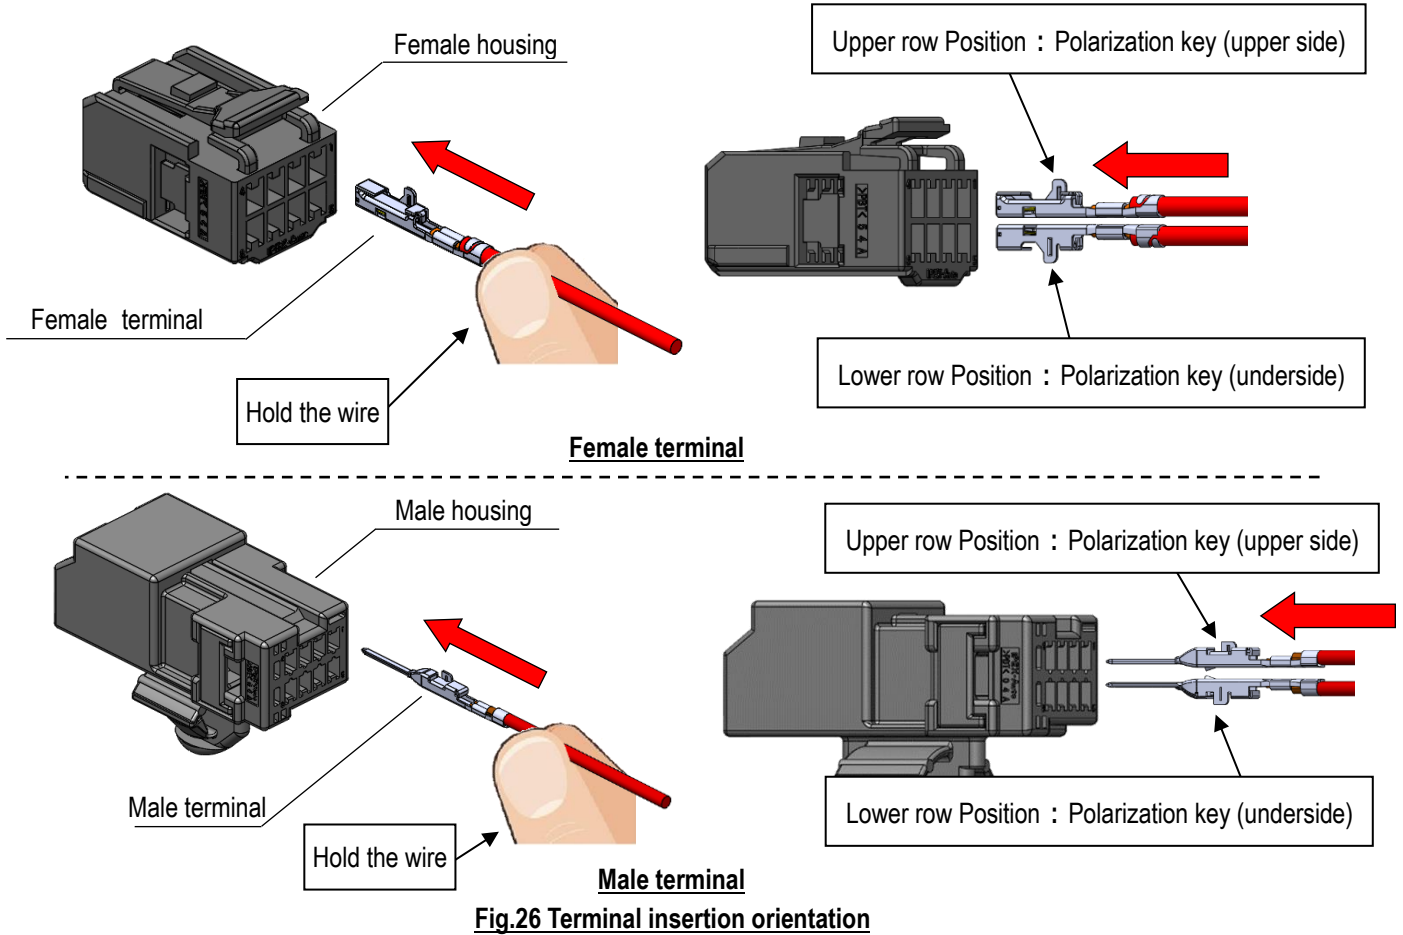

Fig.26 Terminal insertion orientation
- ① Ensure that the terminal is crimped correctly and there is no damage, deform or dirt present.
- ② Hold the wire to insert the terminal as shown in Fig.26.
- ③ Insert the terminal into the corresponding corehole of the housing, as deeply as possible, in the orientation as shown in Fig. 26.
- ④ Once the terminal is inserted, ensure that the terminal retention is fastened by pulling the wire lightly towards you.